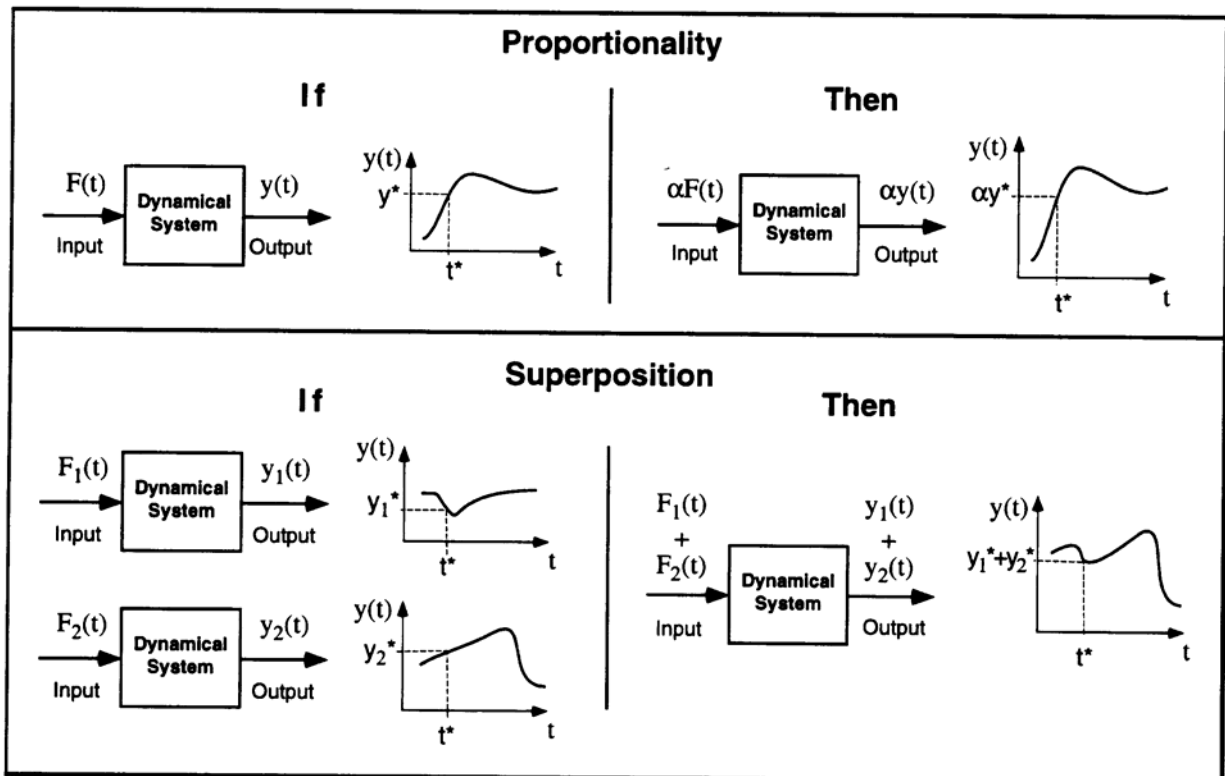
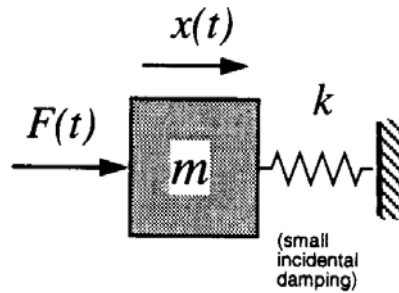

Figure 3.2 The principles of proportionality and superposition.
Figure 3.3 System for tests of linearity principles.
Two important properties of linear systems are proportionality and superposition. For convenience of review, these principles are depicted in Figure 3.2. In this experiment, these concepts are demonstrated on the spring / inertia oscillator shown in Figure 3.3. Here we use impulsive forcing functions because the results lead to a conceptual and analytical approach for obtaining the response to an arbitrary forcing function as studied in the next section. The concepts demonstrated here however, hold for general continuous functions as well.
- A. How does changing the forcing function input amplitude affect the output (neglecting mechanism friction effects)? Explain using the terminology defined in Figure 3.2.